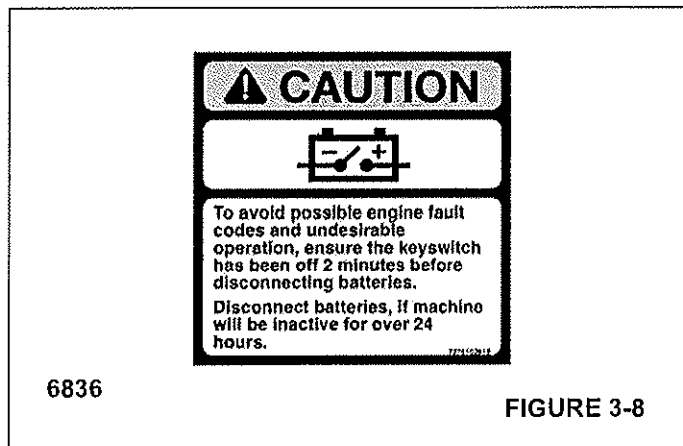

FIGURE 3-8
14. Turn battery disconnect to OFF position if machine will be inactive for over 24 hours (Figure 3-8).